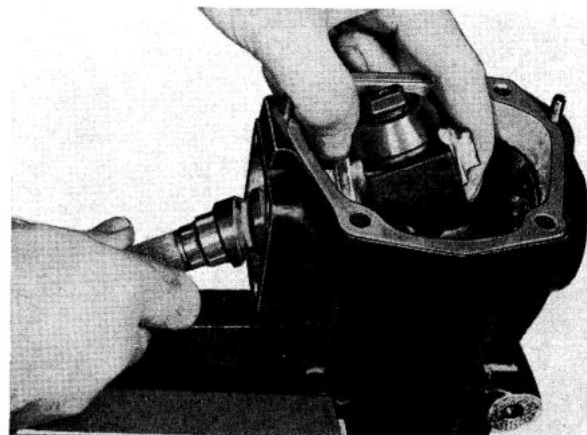

Fig. 6-56. Fitting the steering cam
3. Fit the ball nut together with the steering cam into the housing (Fig. 6-56). Carefully fit the steering cam in position in the lower bearing.